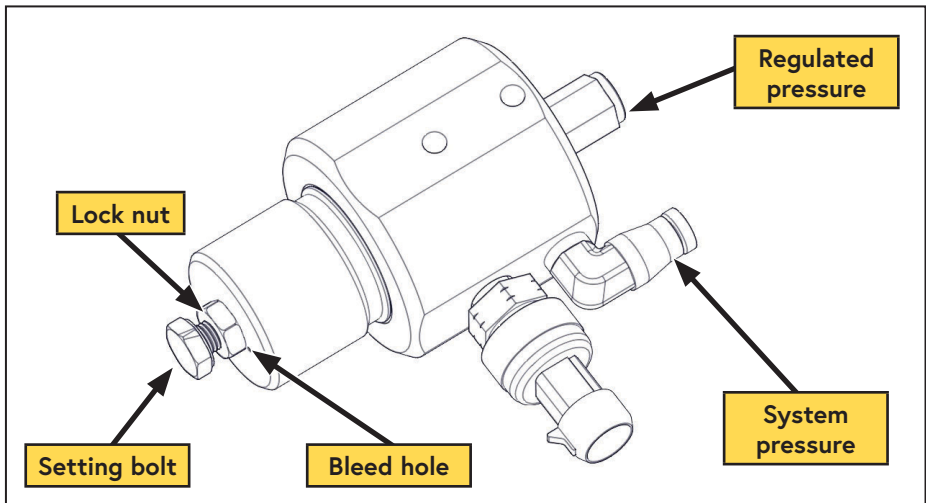

Figure 57 — Air regulator
- ☐ Loosen the lock nut on the regulator (Figure 57).